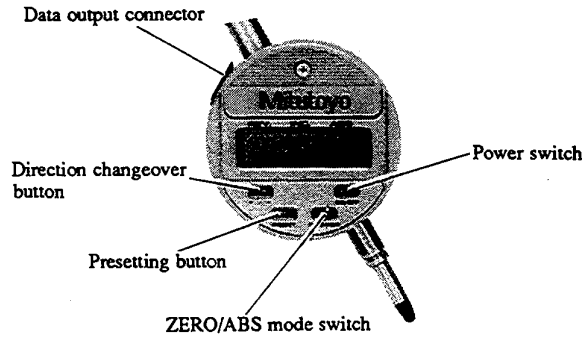

Fig. 16 Digimatic Indicator IDC
5.4.2 Digimatic Indicator IDC (Fig. 16)